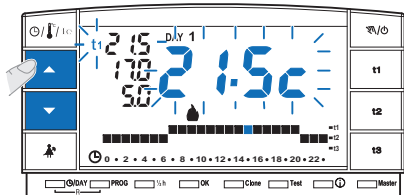

fig. 30
- Set the limit value of the desired temperature by means of the ▲▼ keys (example in fig. 30).